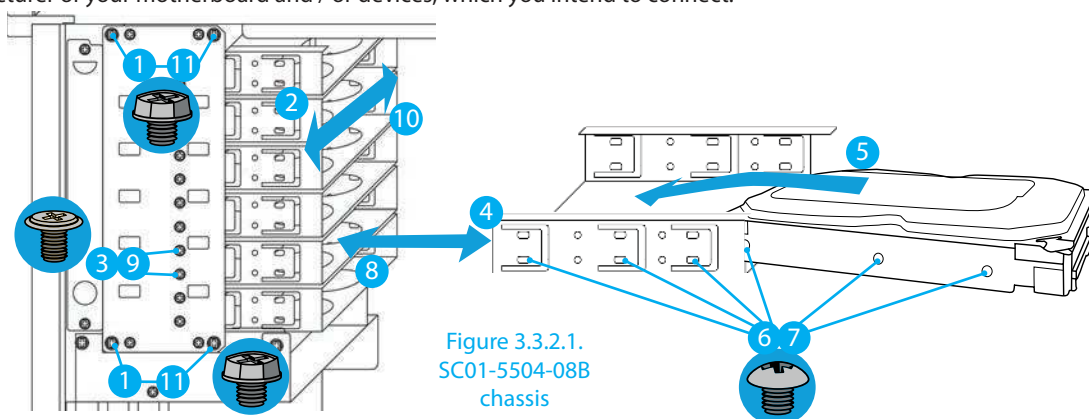

Figure 3.3.2.1.
3.3.2. SC01-5504-08B model (figure 3.3.2.1)
8. Place the tray back into the 3.5" internal bay (the exact opposite of the point 4) – Figure 3.3.2.1.